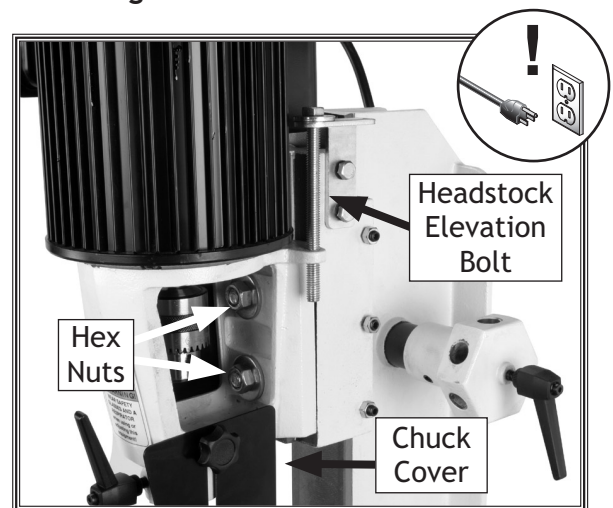

Figure 18. Head height controls.
3. Loosen the two large hex nuts on the inside of the head (see Figure 18).
4. Adjust the headstock elevation hex bolt, shown in Figure 18, to raise or lower the head. Turning the hex bolt clockwise raises the head, and turning the hex bolt counterclockwise lowers the head.